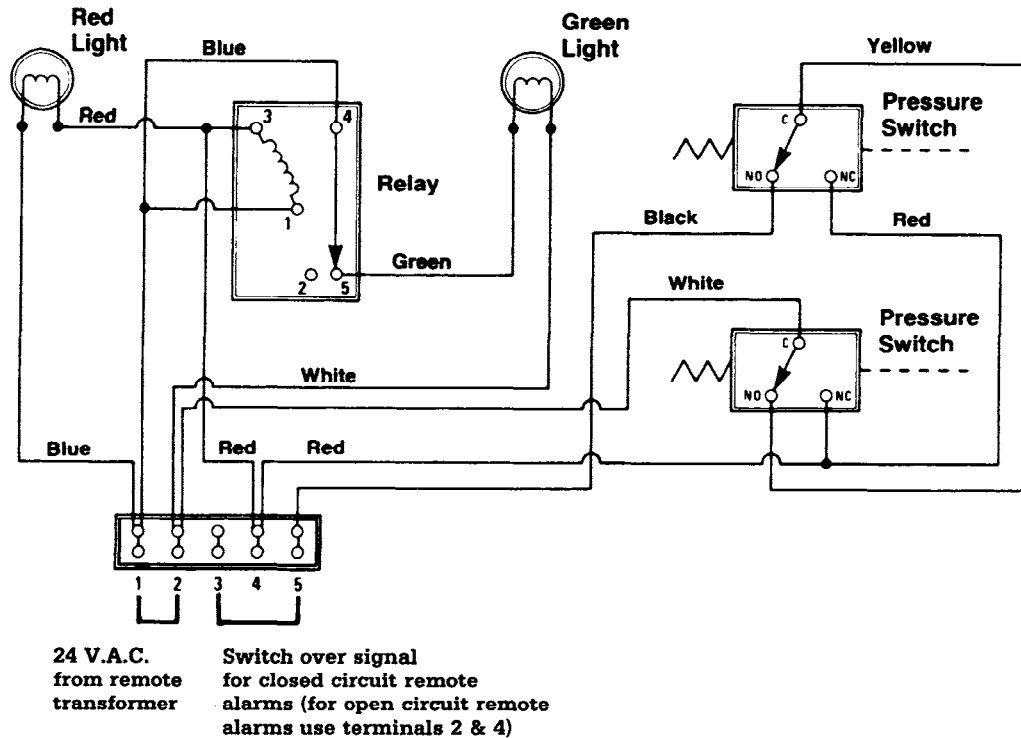

Figure 3-4
1. The manifold is in a normal operating condition when the pressure in both primary and secondary intermediate lines is 200 psig (400 psig on N₂ manifolds) and the green light on the front panel is on. The condition is presented in the electrical schematic Figure 3-4.
The remote alarms vary for each installation. Switch over signals are taken from terminals 2 and 4 or 2 and 5 (See Figure 3-4). Terminals 2 and 4 provide a switch over signal for open circuit remote alarms. A failure in the switch over alarm circuit may not cause a change in the open circuit remote alarm. Terminals 2 and 5 provide a switch over signal for closed circuit alarms. A failure in the switch over alarm circuit will cause a change in the closed circuit remote alarm. Maintenance is required when the indicator circuit display differs from the remote alarm display.
3. Insert the ohmmeter probes in the back of the connector. See Figure 3-4 for electrical wiring schematic. Check the continuity from common to normally open and common to normally closed. Activate the switch manually by using a small blade screwdriver.
An electrical schematic of the switch over indicator circuit is shown in Figure 3-4. The switch over indicator circuit wiring diagram with replacement parts is given in Figure 4-1.
1. The manifold is in a normal operating condition - the pressure in both primary and secondary intermediate lines is 200 psig (400 psig on N₂ manifolds) and the green light on the front panel is on. This condition is presented in the electrical schematic Figure 3-4.